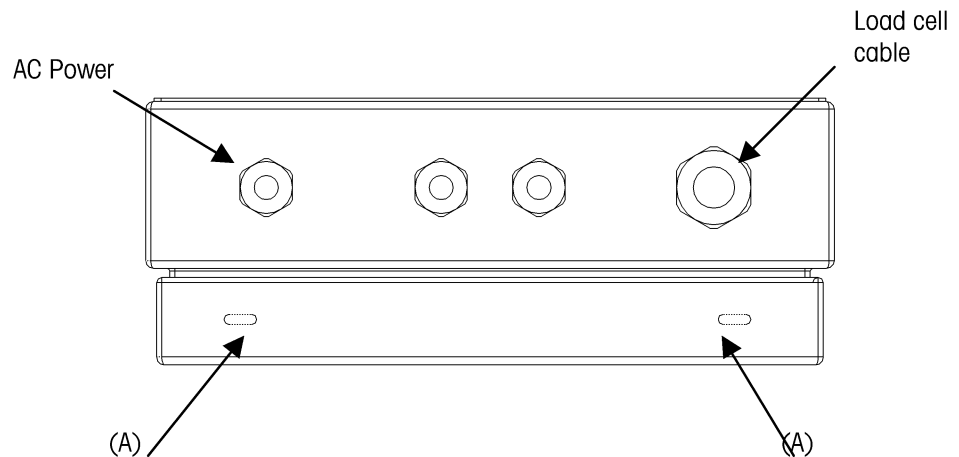

Figure 2-1
5. Squeeze the top of the front panel to the enclosure slightly and raise it to clear the two top clips. The cover will swing down, hinged by a wire cable at the bottom. Figure 2-1 shows the location of the slots (A). Load Cell Connection Serial Cable AC